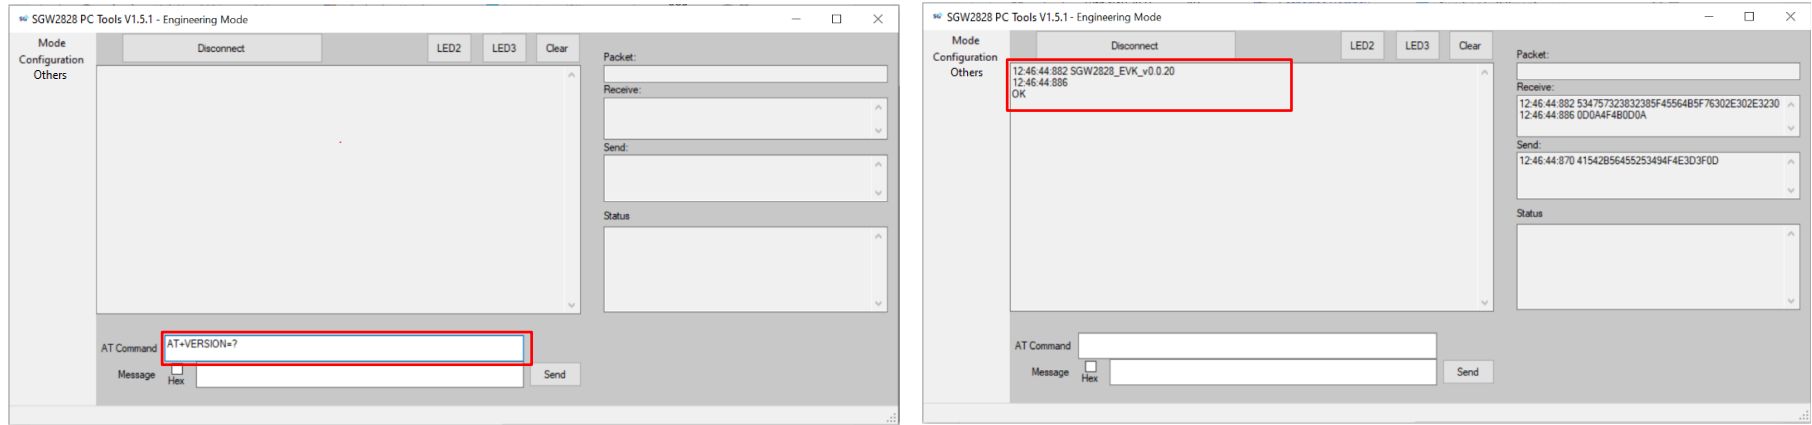

Figure 9: AT Command for Firmware Version
i. *Get Firmware Version (Figure 9)*